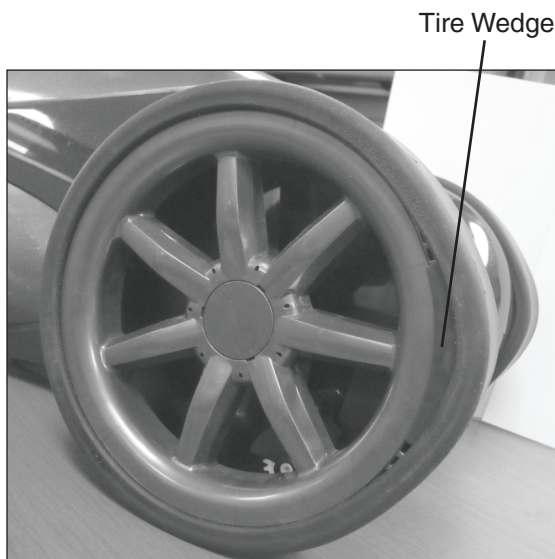

Figure 21.
**Note:** Both wedges should be installed horizontally in line with each other. If they are not in line with each other they may cause the cleaner to have difficulty with the transition angle. This is important for proper cleaner operation. **See figure 21.**
2. Push the wedge towards the nose of the cleaner body until the insert is securely seated behind the lip of the rubber tire. **See figure 21.**